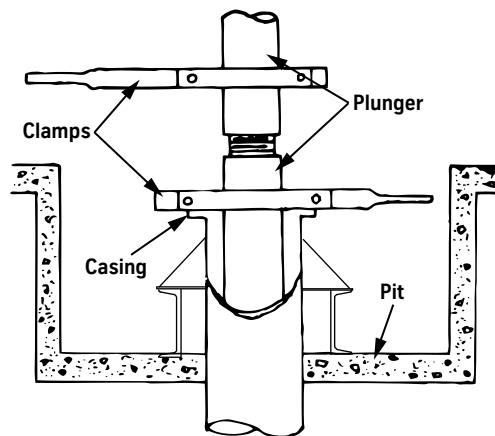

Figure 13 - Jack Clamp
3. Secure a jack clamp to the plunger section 2 or 3 feet below the threaded connection, and lower this section until the clamp rests on the casing flange. See Figure 13.